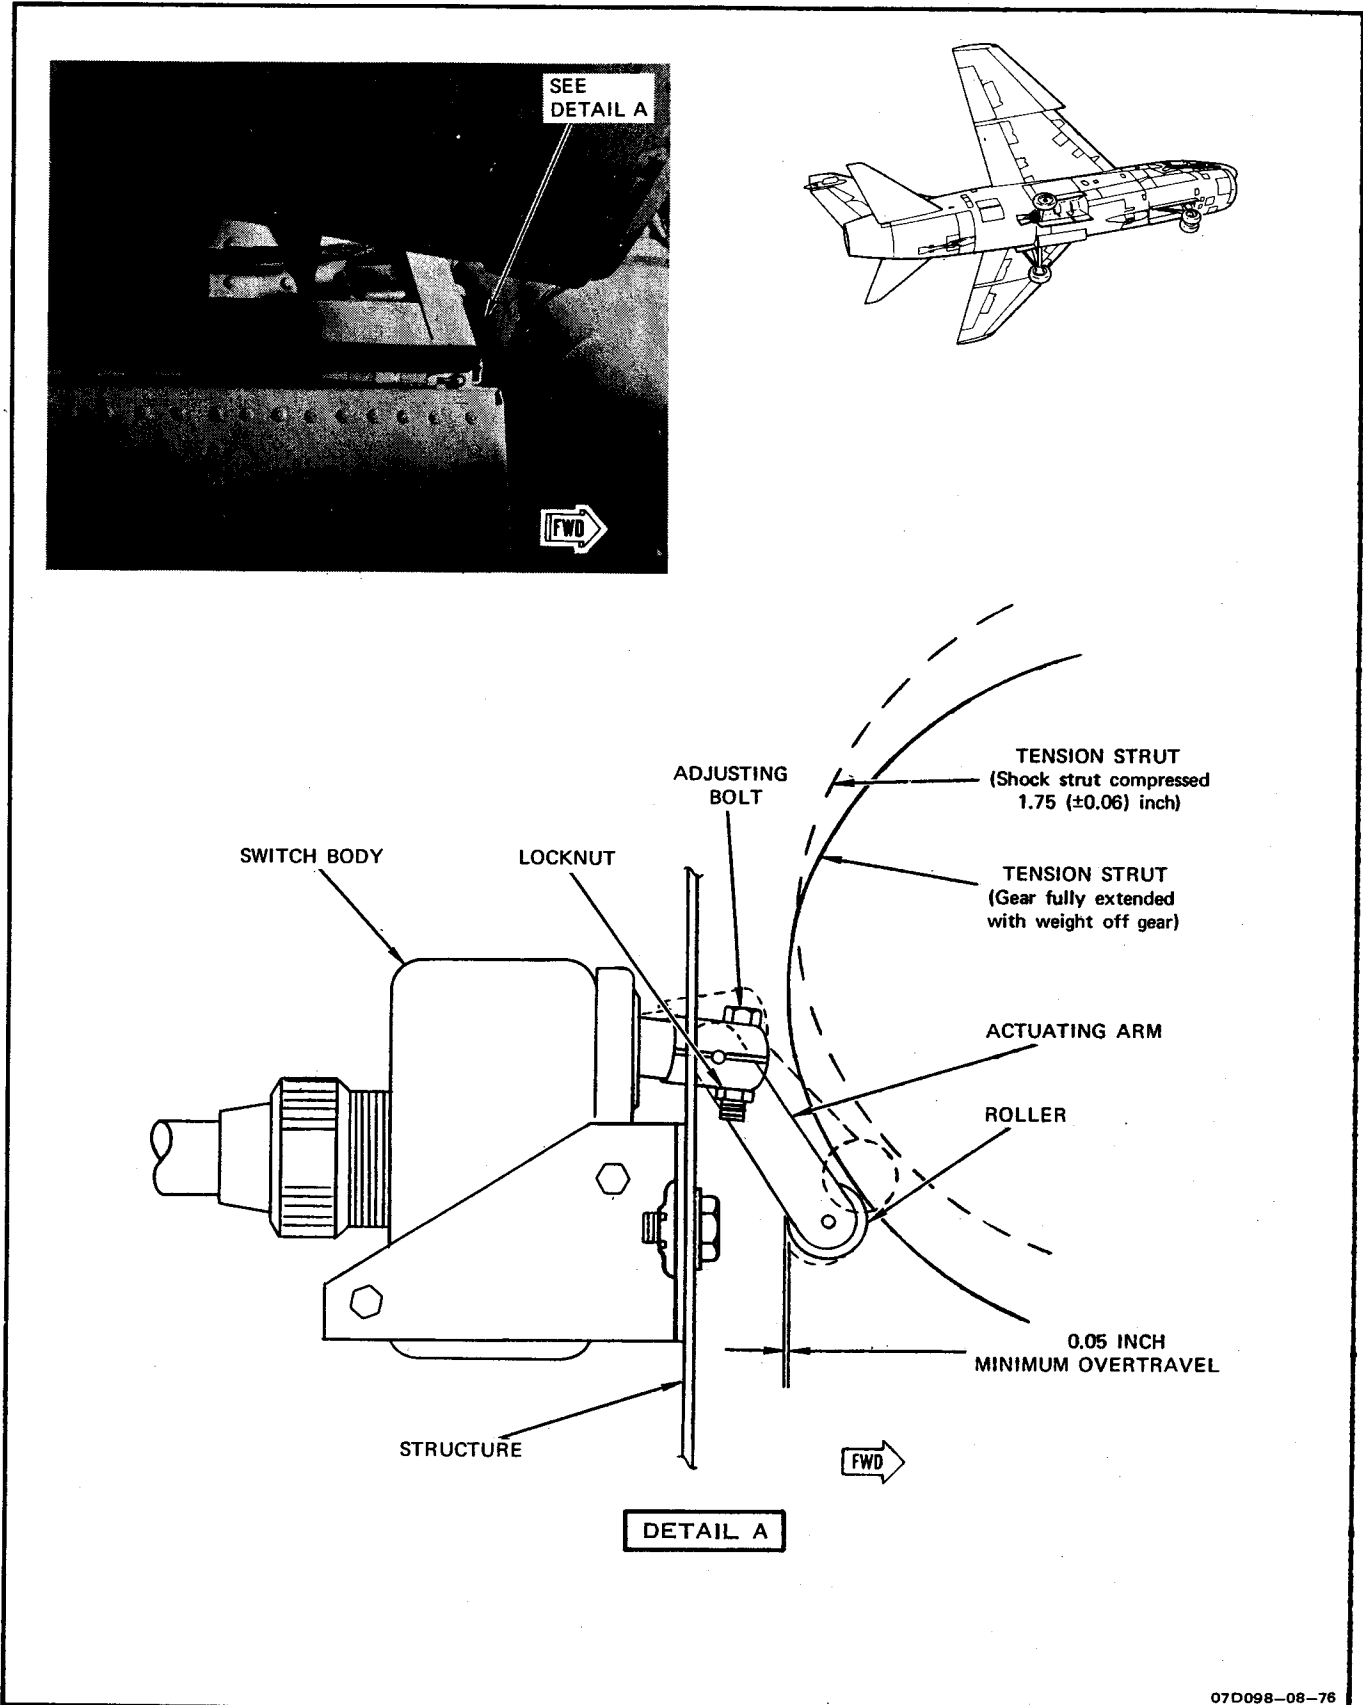

Figure 4-7. Deck Compression Switch Adjustment
**4-34. DECK COMPRESSION SWITCH ADJUSTMENT.** (See figure 4-7).**Tools Required**